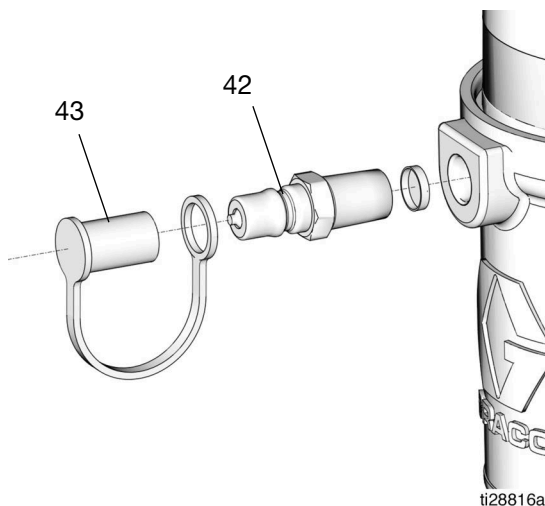

FIG. 10
5. Remove the fill cap (43), then use a wrench to loosen and slowly remove the fill stud (42). (FIG. 10).